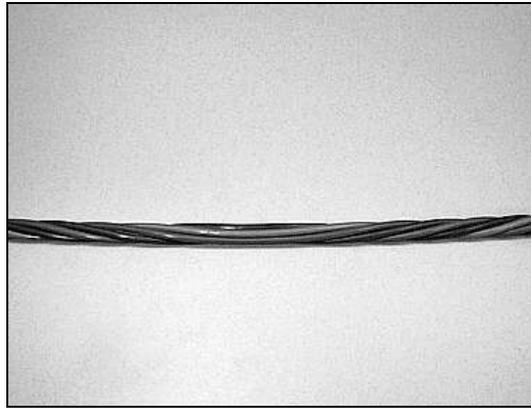

Figure 20 – Buffer tube reversal point.
6.9 Locate the reversal point of the buffer tubes (Figure 20). The reversal point is the point at which the twist in the buffer tube changes direction. If the reversal point cannot be seen, use one of the ripcords to remove an additional 12 inches of outer jacket. Repeat this process at alternate ends of the sheath opening until the reversal point is located.